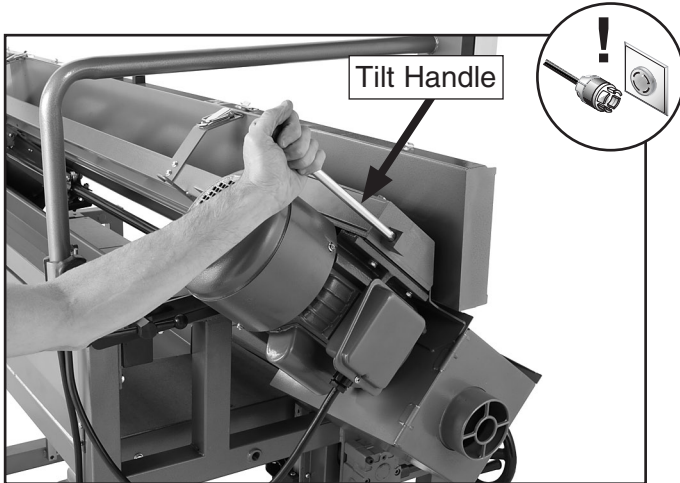

Figure 43. Tilting belt assembly.
- Use the belt tilt handle to tilt the entire belt assembly (**Figure 43**).